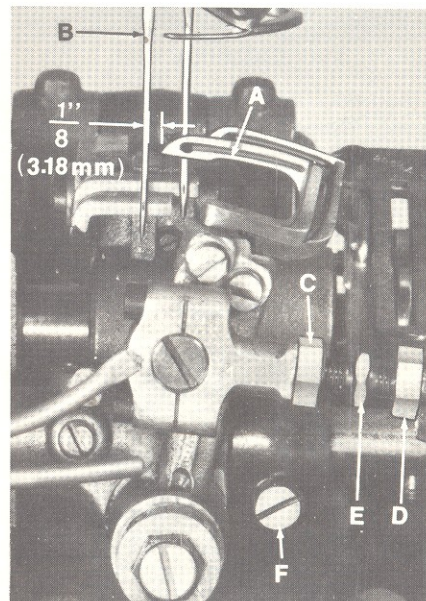

FIGURE 4
Insert a new set of needles in the needle holder (Type and Size as specified). The looper gauge is  $\frac{1}{8}$  inch (3.18 mm), set the front looper (A, Fig. 4) so the distance from the center of the left needle (B) to the point of the front looper is  $\frac{1}{8}$  inch (3.18 mm), when the looper is at its farthest position to the right. Looper gauge No. 21225- $\frac{1}{8}$  can be used in making this adjustment.
If adjustment is required, loosen nut (C, Fig. 4) (it has a left hand thread) and nut (D) on connecting rod (E), turn the connecting rod forward or backward to obtain the  $\frac{1}{8}$  inch (3.18 mm) dimension. Retighten both nuts,
If adjustment is necessary loosen lock screw (F, Fig. 4) and position the looper point to the needle as described. Tighten lock screw (F) when setting is obtained and recheck the adjustment.